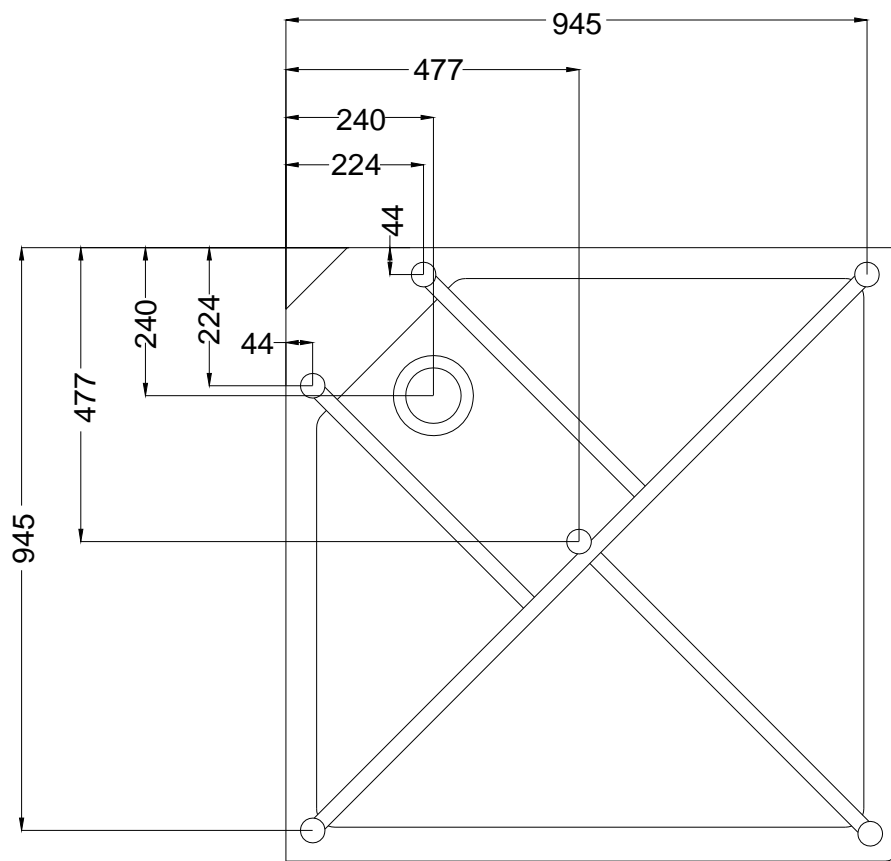

Fig 1 Legs and frame position (top view)
3. For installation of the drain in the floor please refer to the Legs and frame position (top view) diagram and fig1 (actual position of the drain and frame on the tray).